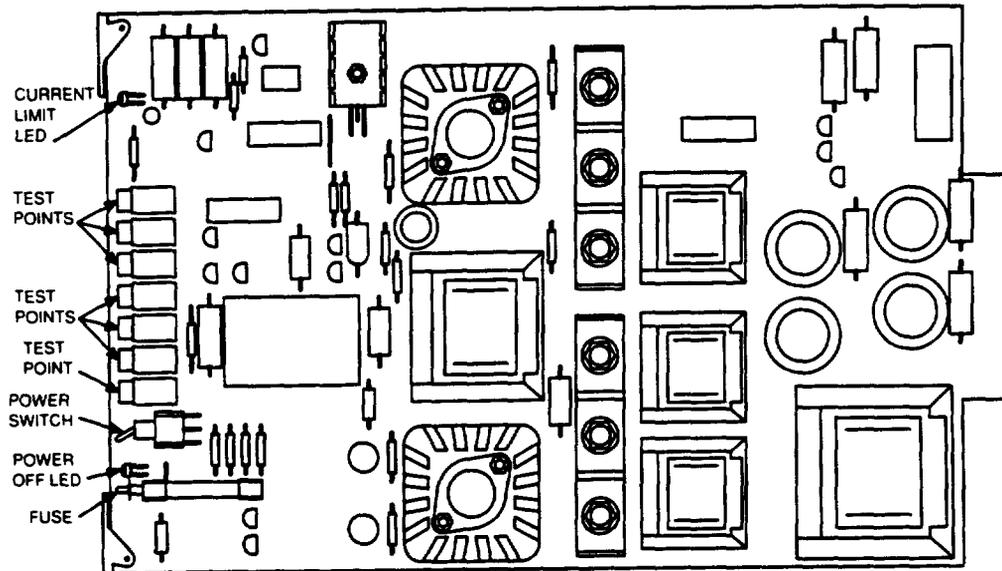

Figure 2. UD1/UD8 Power Supply Circuit Pack
2.03 UD1—Power Supply Circuit Pack: This circuit pack converts the -48 volt DC talk battery into the voltages needed to operate the 13A. Test points to measure the voltage levels are located on the front of the UD1 (Figure 2). Other controls and indicators located on the front of the UD1 are listed and described in Table A.
- (1) Operate POWER switch to ON (Figure 2). POWER OFF LED goes off.
- (2) Measure the voltages at the test points in Table E.